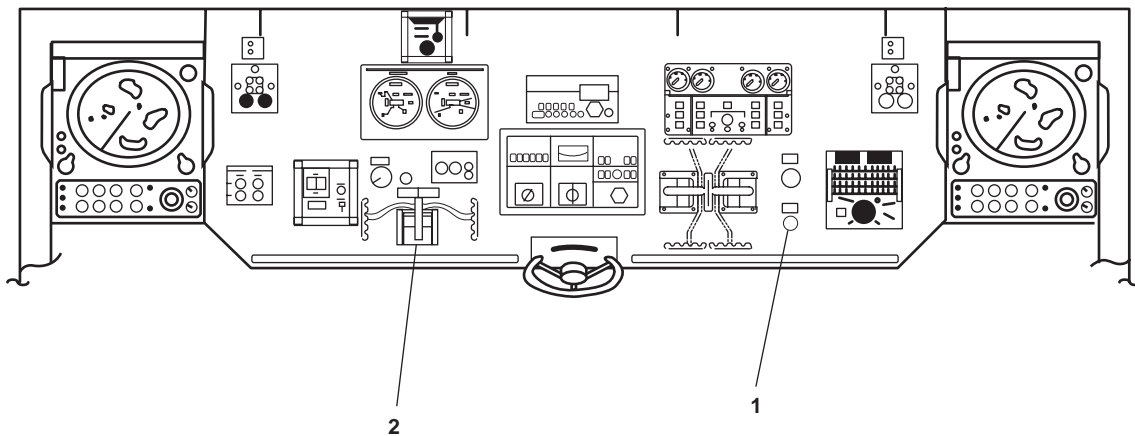

Figure 1. Pilothouse Console
- a. Verify that the COMMAND TRANSFER plunger (figure 1, item 1) is UP in the engaged position, and that the pilothouse console has control of the bow thruster.
- b. Place the bow thruster engine throttle control lever (figure 1, item 2) in the NEUTRAL (center) position.